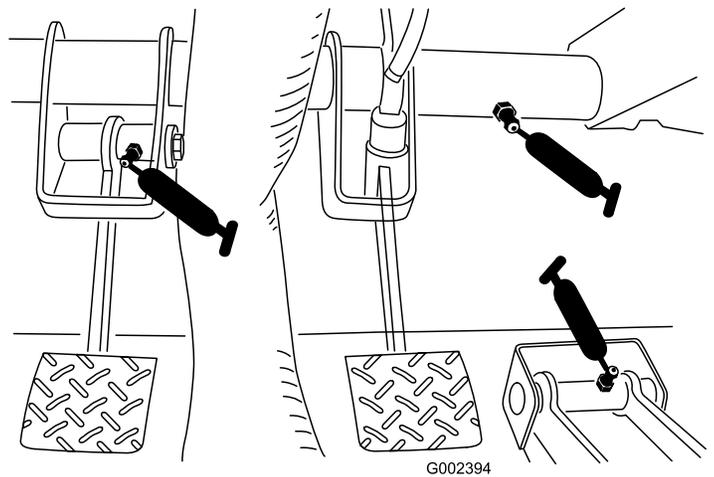

Figure 33
- Clutch (1), accelerator (1), brake (1) (Figure 33)